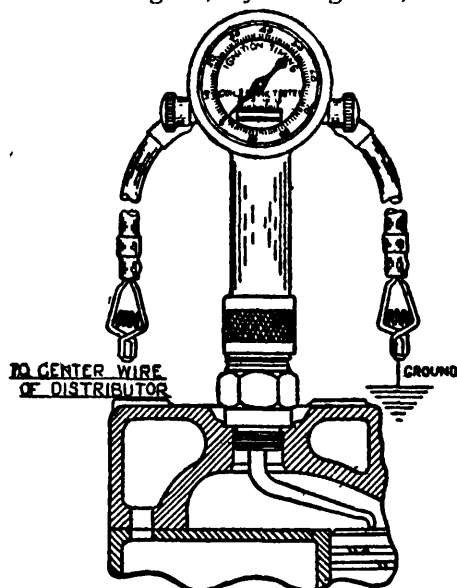

Fig. 7
4. Screw gauge onto adapter (Figure 7), and ground one wire. Connect other wire to center high tension wire after removing it from the distributor cap.